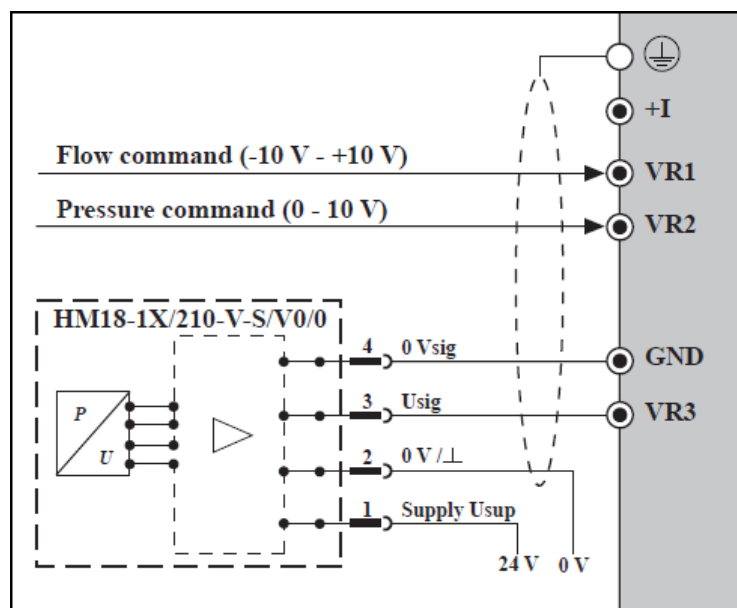

Fig. 17: Connection of the pressure transducer
- ▶ Connect the pressure transducer at terminals VR3 and GND acc. to Fig. 17.